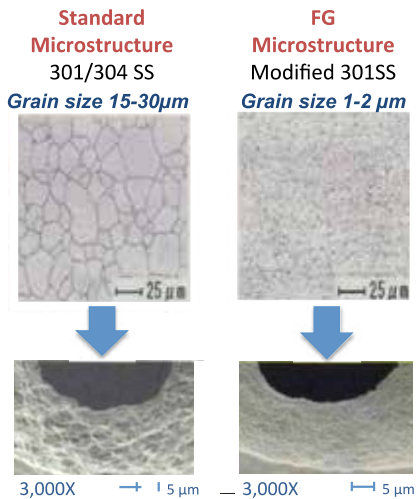

Figure 3. Fine grain stainless steel reduces the typical grain size by an order of magnitude.
sive option, but can be prone to thickness variations, inclusions or other flaws in the material, and warping or bowing in reaction to the heat generated by laser cutting. Premium SS manufactured specifically for SMT stencils by Datum Alloys is precision rolled to maintain very tight thickness tolerances and is stress relieved to prevent distortion from the heat of cutting. In addition to the popular stress-relieved SS alloy known as PhD, Datum also offers a fine grain (FG) SS that reduces the typical grain size by an order of magnitude (Figure 3). The finer grains produce smoother stencil walls and crisper steps. Many high precision stencil printing processes depend upon it.